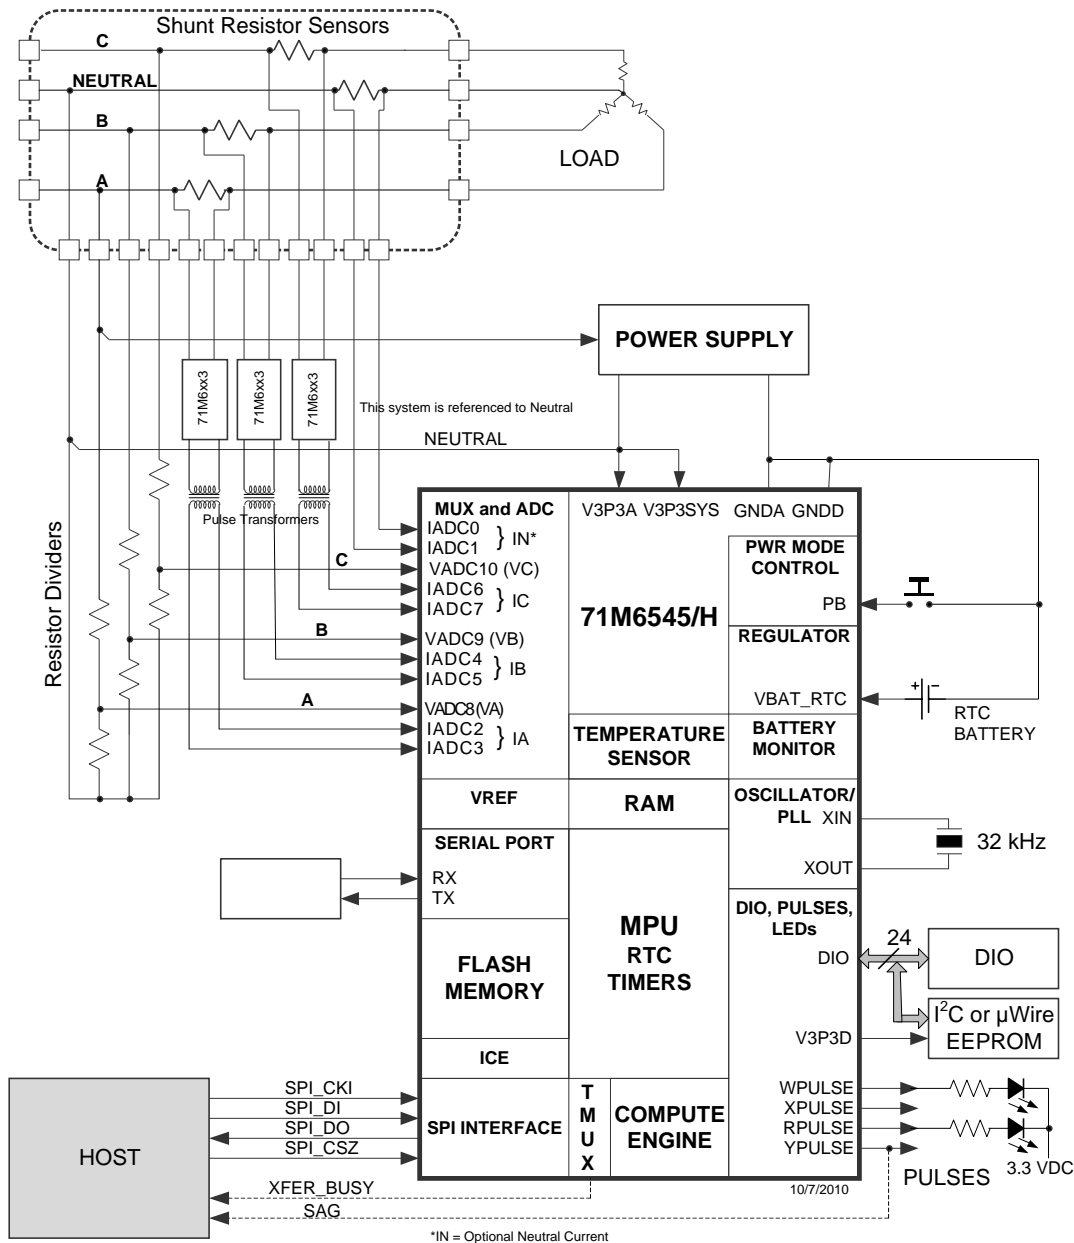

Figure 27: System Using Three-Remotes and One-Local (Neutral) Sensor
Figure 27 shows a typical connection for current shunt sensors; using the 71M6xx3 (poly-phase) isolated sensors. Note that one shunt current sensor is connected without isolation, which is the neutral current sensor in this example (connected to pins IADC0-IADC1). Each 71M6xx3 device is electrically isolated by a low-cost pulse transformer. The 71M6545/H current sensor inputs must be configured for remote sensor communications, as described in 2.2.8. Flexible remapping using the I/O RAM registers $MUXn_SEL[3:0]$ allows the sequence of analog input pins to be different from the standard configuration (a corresponding CE code must be used). See Figure 2 for the AFE configuration corresponding to Figure 27.
This section discusses metrology temperature compensation for the meter designs where current shunt sensors are used in conjunction with the 71M6xx3 remote isolated sensors, as shown in Figure 27.
Referring to Figure 27, the VADC8 (VA), VADC9 (VB) and VADC10 (VC) voltage sensors are always directly connected to the 71M6545/H. Thus, the precision of the voltage sensors is primarily affected by VREF in the 71M6545/H. The temperature coefficient of the resistors used to implement the voltage dividers
Table 57 shows the five $GAIN_ADJ_x$ equation output storage locations and the voltage or current sensor channels for which they compensate for the 1 Local / 3 Remote configuration shown in Figure 27.
Table 57: GAIN_ADJn Compensation Channels (Figure 2, Figure 27, Table 1)